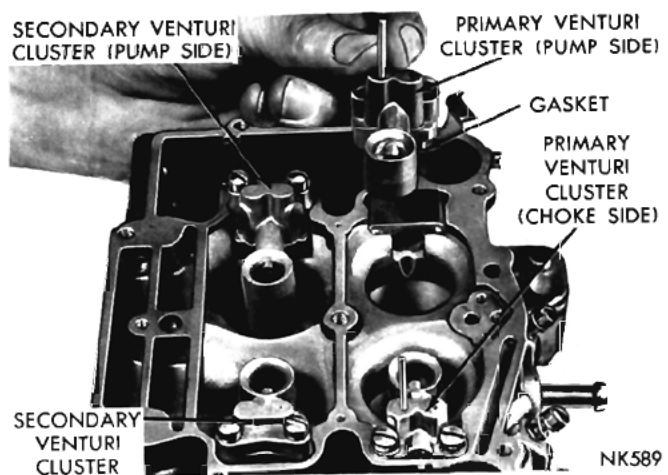

Fig. 5—Removing or Installing Primary Venturi Cluster
(4) Remove the screws that attach the primary venturi (choke and pump side) to the main body. Lift the venturi straight up and away from the main body, as shown in (Fig. 5). Discard the gaskets.
(1) Slide the primary throttle valve (or valves) into their respective bores, install new screws, but do not tighten. Be sure the idle speed adjusting screw is backed out. Hold the valves in place with fingers. (Fingers pressing on the high side of valves.)
(2) Tap the valves lightly in this position, tighten screws securely. Stake screws by squeezing with pliers.
(3) Install the two idle mixture adjusting screws and springs in the throttle body portion of the casting. The tapered portion must be straight and smooth. If the tapered portion is grooved or ridged, a new idle mixture adjusting screw should be installed to insure having correct idle mixture control. **Do not use a screw driver.** The adjustment should be made with the fingers. Turn the idle mixture adjusting screws lightly against their seats, then back off one full turn for an approximate adjustment.
(4) Install the velocity valves and counterweights in position in the secondary throttle bores. (Be sure that the valve shaft is free and does not bind after installing the secondary venturis.)
(5) Place new secondary venturi gaskets in position, then install the secondary venturi (pump and choke side) by lowering straight down on gaskets. Install attaching screws and tighten securely.
(6) Place new primary venturi gaskets in position, then install the primary venturi (pump and choke side) by lowering straight down on the gaskets. Refer to (Fig. 5). Install attaching screws and tighten securely.